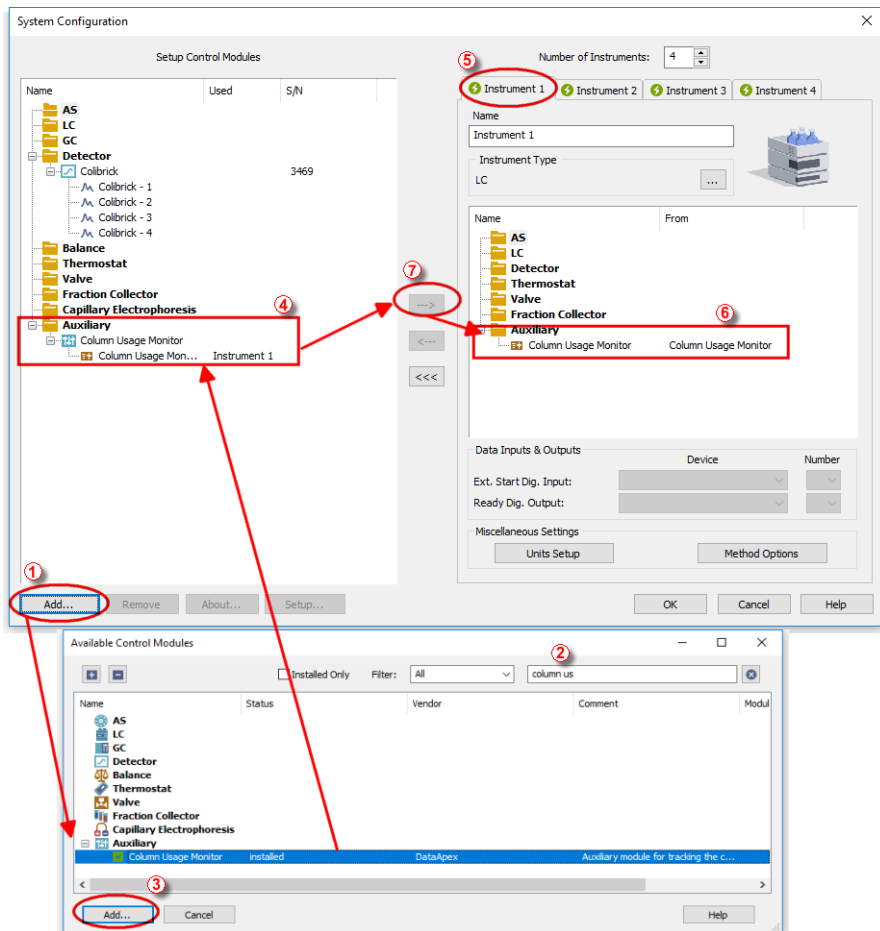

Fig. 1: System Configuration
- Press the *Add* button ① (See **Fig. 1** on pg. 3.) to invoke the *Available Control Modules* dialog.
- You can specify the searching filter ② to simplify the finding of the driver.
- Select the **Column Usage Monitor** item in the *Auxiliary* section and press the *Add* ③ button.